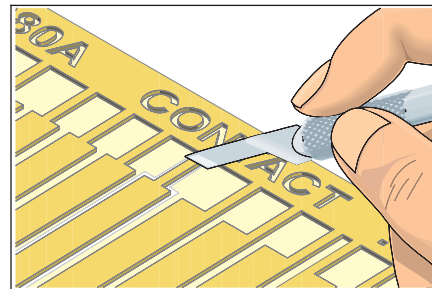

Figure 4 Cut out the new edge contact.
10. Cut out and trim the new edge contact. Cut out from the plated side. Cut the length to provide the maximum allowable joint if lap soldering. Minimum 2 times the conductor width. Leave the new edge contact extra long. The excess material will be trimmed after bonding. (See Figure 4.)